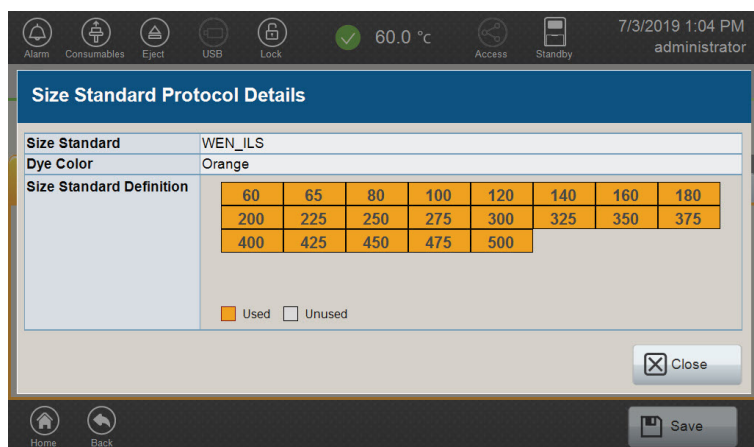

Figure 129. 'Size Standard Protocol Details' from 'New Sizecalling Protocol' screen.
Size Standard	<p>Defines the size standard (Figure 129) to use in the sizecalling protocol and specifies which peaks within the size standard are used by the sizecalling protocol when calculating sizing quality (SQ) and electrophoresis quality (EQ). See 'Result' Tab in Section 5.7 for definition of SQ and EQ.</p> <p>Note: Size standard selected must match that used with samples.</p>
4. Select **Detail** to review the parameters of the selected Size Standard protocol (Figure 129). Select **Close** to return to the 'New Sizecalling Protocol' screen.